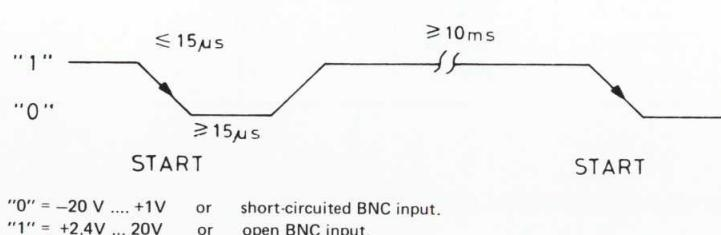

Fig. 14. Start pulse for EXT START input.
- A measurement is started by making this input low (see fig. 14)